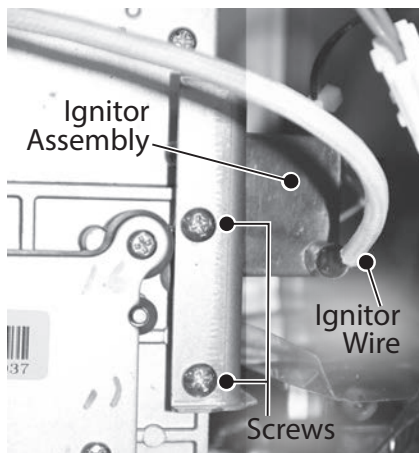

Figure 111 - Ignitor assembly location
- 8 Locate the ignitor assembly on the right side of the water heater. See Figure 111.
- 9 Disconnect the ignitor wire from the ignitor assembly. See Figure 111.
- 10 Remove the two screws securing the ignitor assembly and bracket to the gas manifold. Place screws aside in a safe place for reinstallation. See Figure 111.